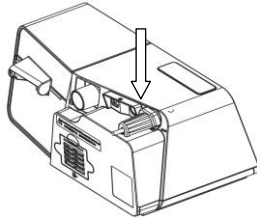

Fig. 11-7
- (4) Press the power cord locker downward to fix power cord into the port, as shown in Fig. 11-7.